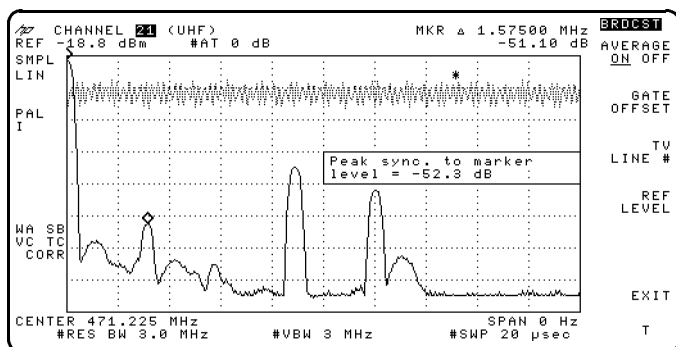

Figure 2-26. Chroma Intermodulation Measurement
3. The result is updated after each sweep and displayed on the spectrum analyzer screen as shown in Figure 2-26. Both the time domain and frequency domain traces are shown simultaneously. (The time domain trace is the dashed trace.)